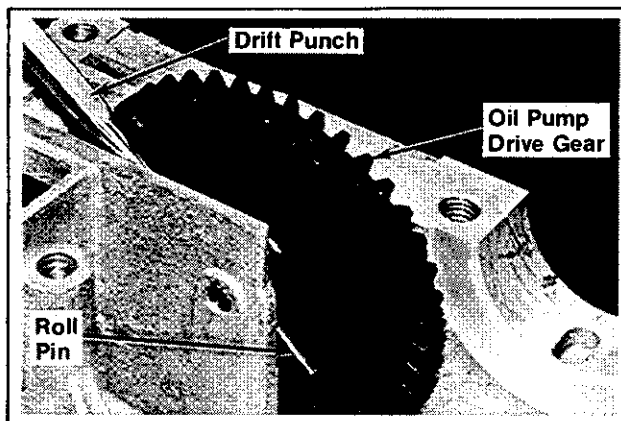

Figure 9-46. Removing Oil Pump Drive Gear.
- Using a small-diameter drift punch, drive the roll pin out of the pump drive gear and shaft. Remove shaft, drive gear, and shim spacer. Refer to Figure 9-46.